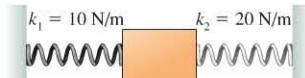

FIGURE P8.49
49. II Figure P8.49 shows two springs attached to a block that can slide on a frictionless surface. In the block's equilibrium position, the left spring is compressed by 2.0 cm.